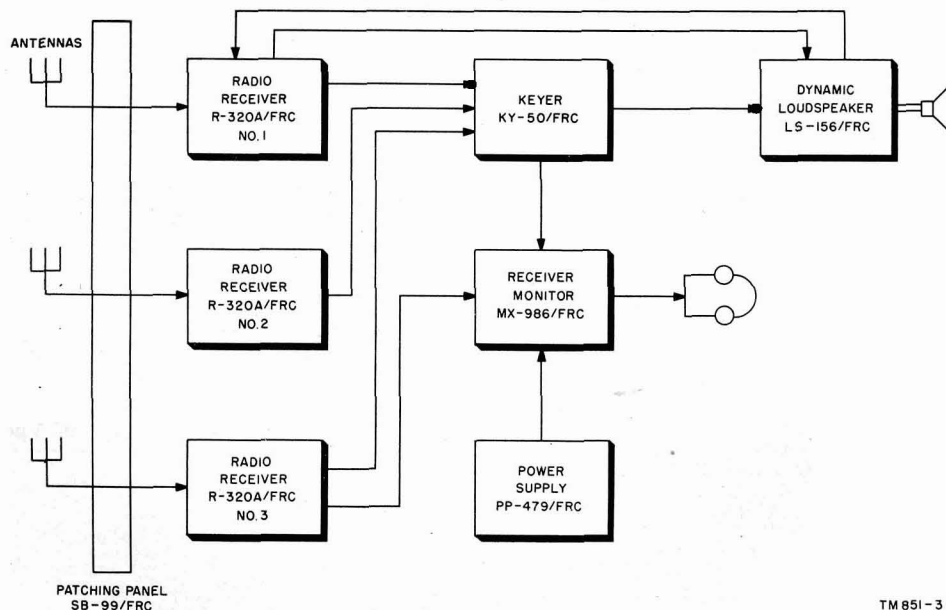

Figure 3. Radio Receiver R-320A/FRC, typical system application, simplified block diagram.
a. A typical fixed field installation employing Radio Receiver R-320A/FRC is shown in figure 3. A signal is received simultaneously on the three antennas and is fed to the receivers, which may be operated as single units or in diversity arrangement, depending on the setting of switches in the keyer. In diversity operation, the receiver having the greatest output is selected automatically to control the keyer output. Diversity output from the keyer is fed through switches in the speaker unit to the audio stages in one of the receivers for amplification before being applied to the speaker. Figure 3 shows the equipment in diversity arrangement using the audio section of receiver No. 1. At any given instant, the output signal of one receiver is dominant and the signals of the other two are suppressed. The signal path is from the